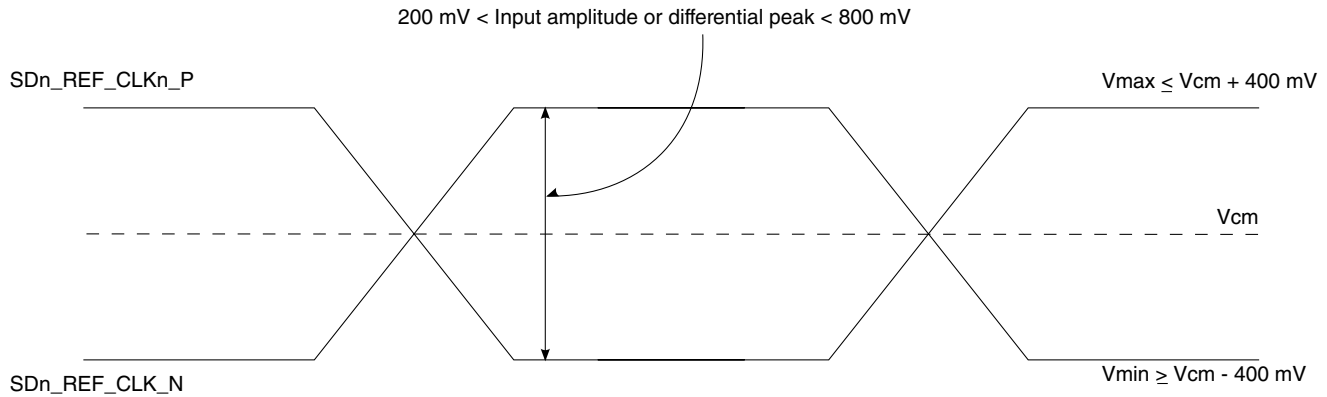

Figure 34. Differential reference clock input DC requirements (external AC-coupled)
- For an external AC-coupled connection, there is no common mode voltage requirement for the clock driver. Because the external AC-coupling capacitor blocks the DC level, the clock driver and the SerDes reference clock receiver operate in different common mode voltages. The SerDes reference clock receiver in this connection scheme has its common mode voltage set to $SGNDn$. Each signal wire of the differential inputs is allowed to swing below and above the common mode voltage ($SGNDn$). Figure 34 shows the SerDes reference clock input requirement for AC-coupled connection scheme.